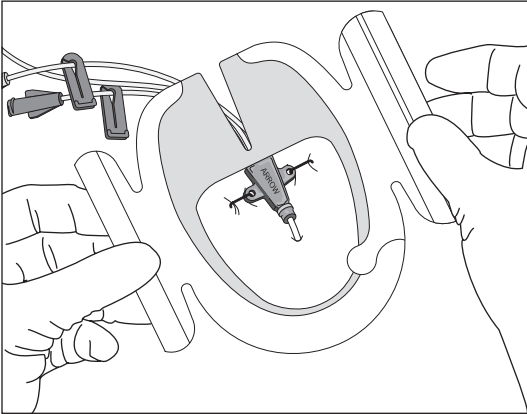

Figure 12
- Adhere center of transparent window over insertion site, while holding notched portion off the skin (refer to Figure 12).